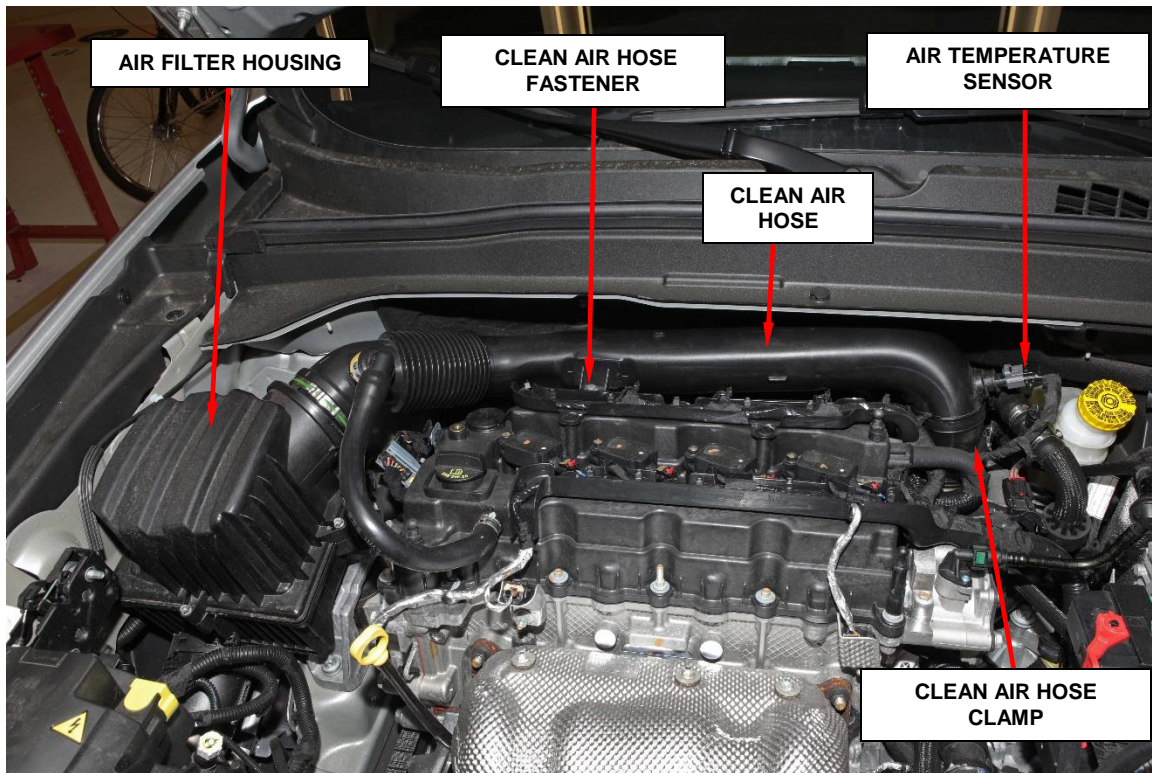

Figure 4 – Engine Compartment
8. Disconnect the air temperature sensor electrical connector (Figure 4).
9. Loosen the clean air hose clamp (Figure 4).
10. Remove the air hose fastener (Figure 4).
31. Reinstall the air hose fastener and tighten securely (Figure 4).
32. Tighten the air hose clamp (Figure 4).